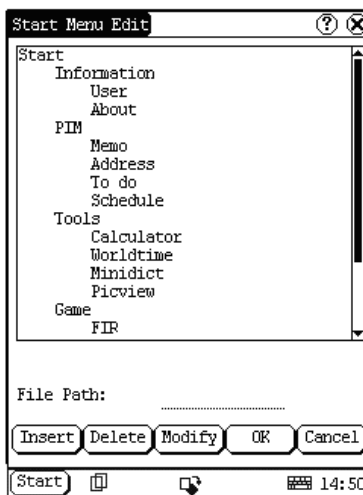

Fig 4-30
- 2) Then you can see the corresponding information in the list box of the interface. (See Fig 4-30)